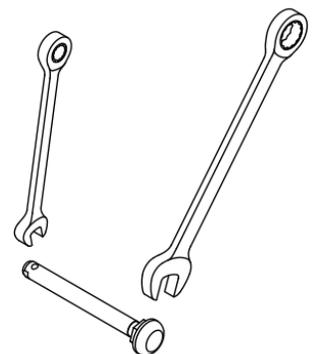

Figure 15.30: Quick Release Axle Adjustment
1. Using a 7/16" open end wrench, securely hold the detent ball end of the axle. (See Figure 15.30)